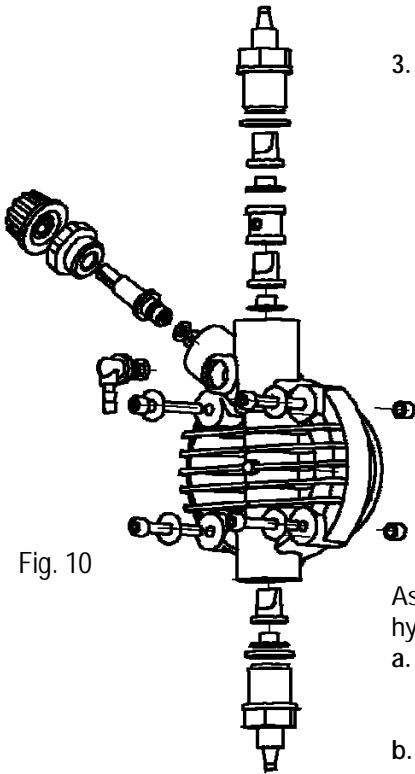

Fig. 10
2. Check pump operation, screw seals and gaskets every 6 months and for very aggressive liquids make more frequent checks and in particular monitor the concentration of the plant additive; a reduction in additive concentration could be determined by wear on the valves (in this case substitute the valves being careful to reassemble them as in Fig. 10) or by clogging of the filter which must be cleaned as follows.
To perform this operation when the equipment is not fixed to the plant, the pump can be pulsed for a few seconds (15-30) keeping it overturned and without piping connected to the fittings. If this is not possible disassemble and reassemble the pump body (Fig. 10), using the four fixing screws.
As the system is quite robust, normally there are no mechanical problems. Occasionally there might be a loss of liquid from the nipple because the tube nut has become loose, or more simply the outlet piping has broken. It is rare to detect losses due to a broken membrane or due to wear on the membrane seal gasket. In this remote case, the components must be substituted by removing the four screws on the pump body (Fig. 10), when the screws are reassembled tighten them equally to a maximum tightening torque of 180÷200 Nxcm. Once the liquid loss is repaired, clean the dosing pump of any additive residues which could attack the pump body.
- a. Disassemble the suction and outlet valves, clean them and place them back to the same position (Fig. 10).